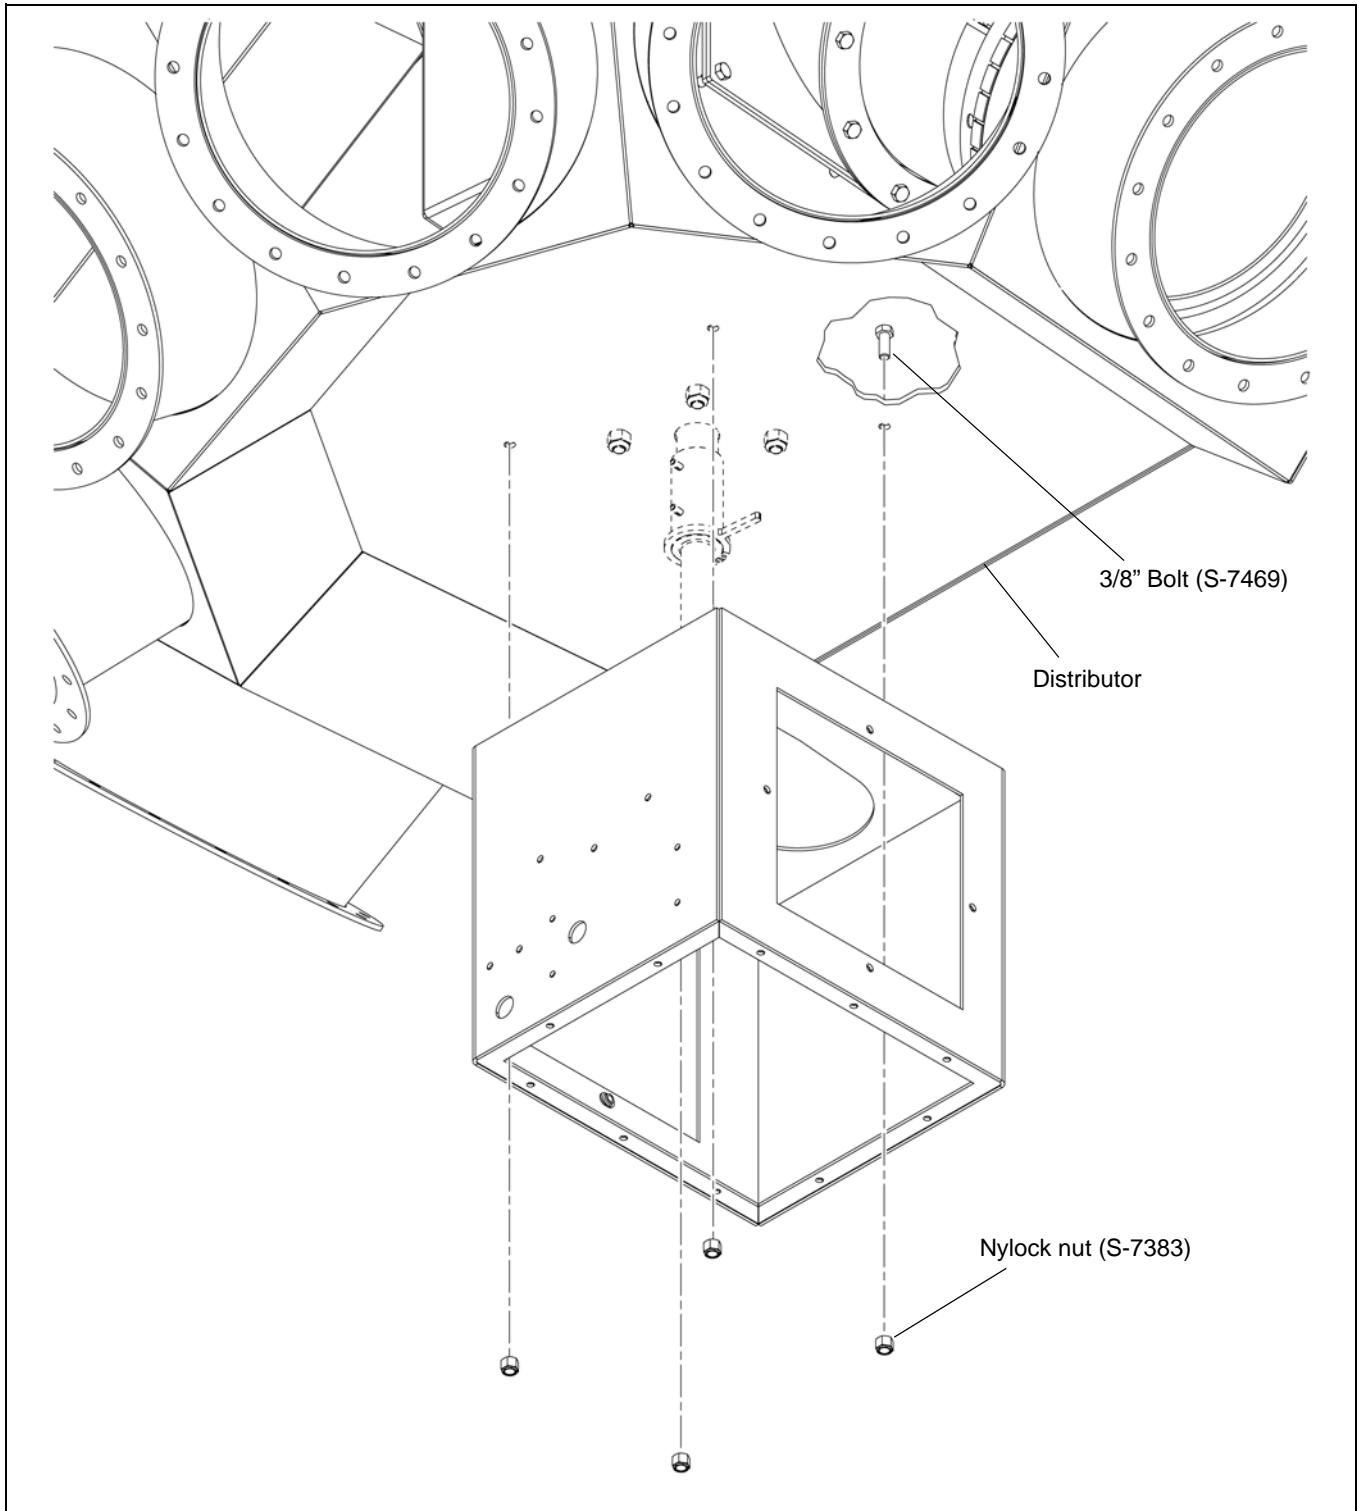

Figure 2B *Electronic Distributor Enclosure*
Install the enclosure (DEC0005) to the distributor using four (4) 3/8 bolts (S-7469) and nylock nuts (S-7383). (See Figure 2B.)